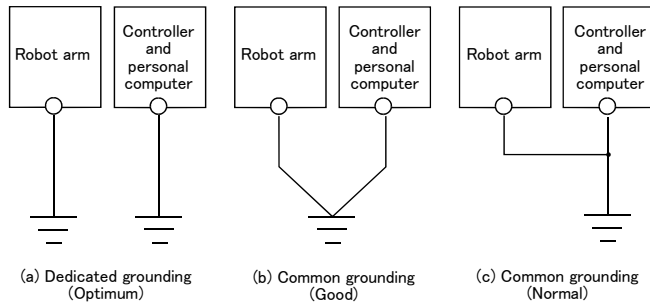

Fig.2-4 : Grounding methods
- 1) There are three grounding methods as shown in Fig. 2-4, but the dedicated grounding (Fig. 2-4 (a)) should be used for the robot arm and controller when possible. (Refer to the separate " Controller Setup, Basic Operation and Maintenance" for details on the controller grounding.)